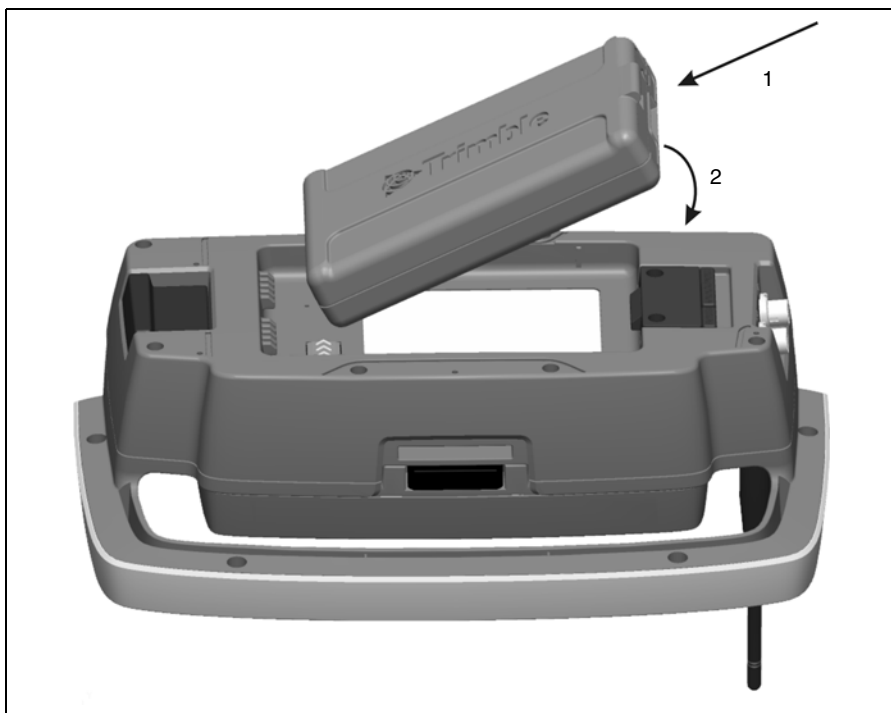

Figure 7.76 Attaching a battery to the Trimble Robotic Holder
1. Fit the battery on to the hooks on the holder (1).
2. Push the battery on to the holder until it clicks into place (2). See figure 7.76